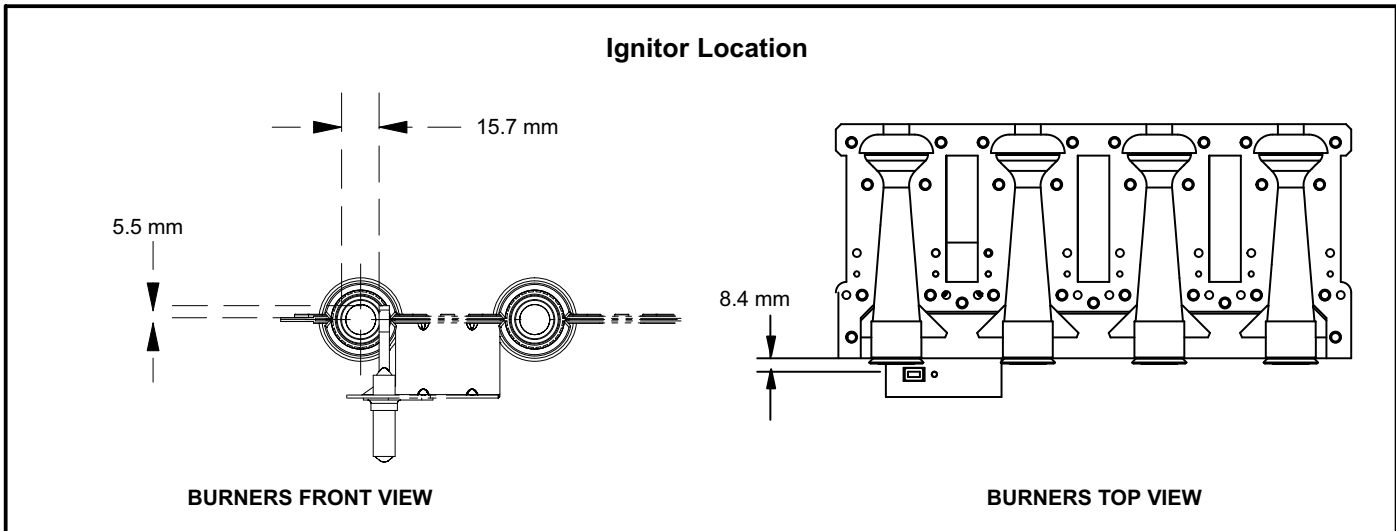

FIGURE 11
The mini-nitride ignitor is made from a proprietary material. Ignitor longevity is enhanced by controlling the voltage to the ignitor. To check ignitor reliability measure its resistance. A value of 400 to 750 ohms indicates a good ignitor. See figure 11 for ignitor location.
7. Burners (Figure 11)